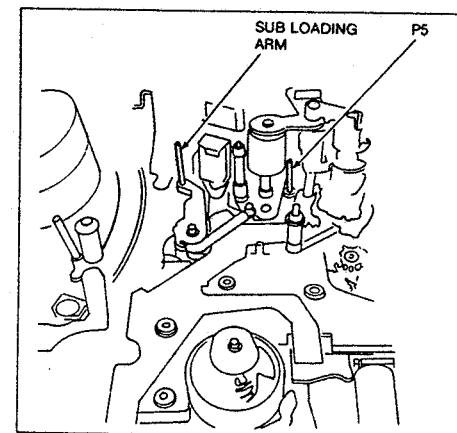

FIG. D25
6. Repeat item 4 and 5 until mechanism come to stop (sub loading) position as shown in FIG. D25. (STOP position is same as FF/REW position, therefore, when you rotate the capstan motor in STOP position, supply or Take up reel table is rotated corresponding with direction of rotation)